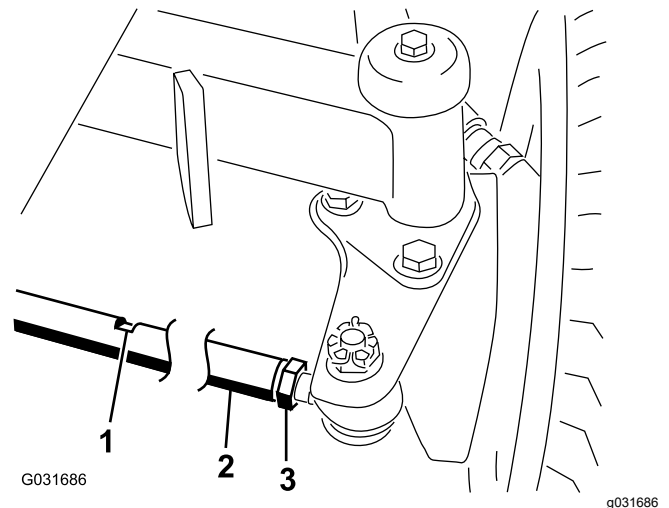

Figure 92
2. Loosen the jam nut on each end of the tie rod (Figure 92).